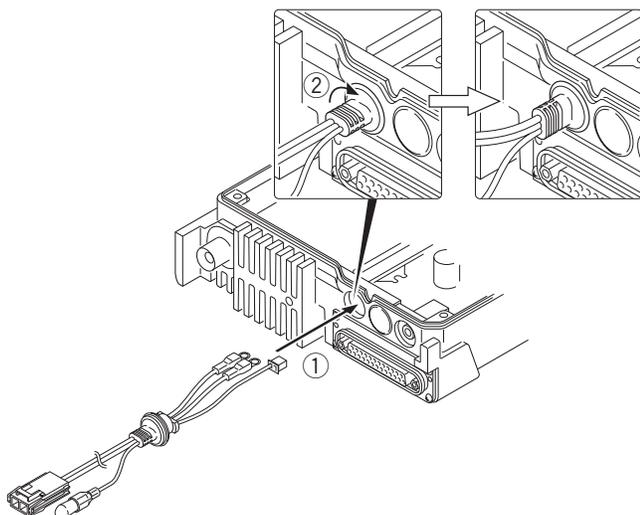
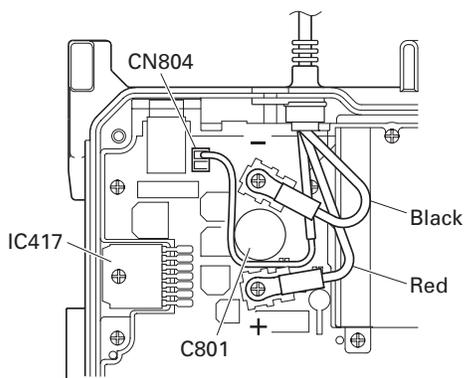

Fig. 5-1
Fig. 5-2
1. Pass the power supply cable through the chassis hole (①) as shown in Figure 5-1 and insert the bush into the chassis hole.
2. Rotate the bush of the power supply cable 90 degrees clockwise as viewed from the rear of the chassis. (②)
4. Align the + (positive) terminal of the power supply cable (red) as shown in Figure 5-2 and fix it to the terminal strip with a screw.
5. Align the - (negative) terminal of the power supply cable (black) as shown in Figure 5-2 and fix it to the terminal strip with a screw.